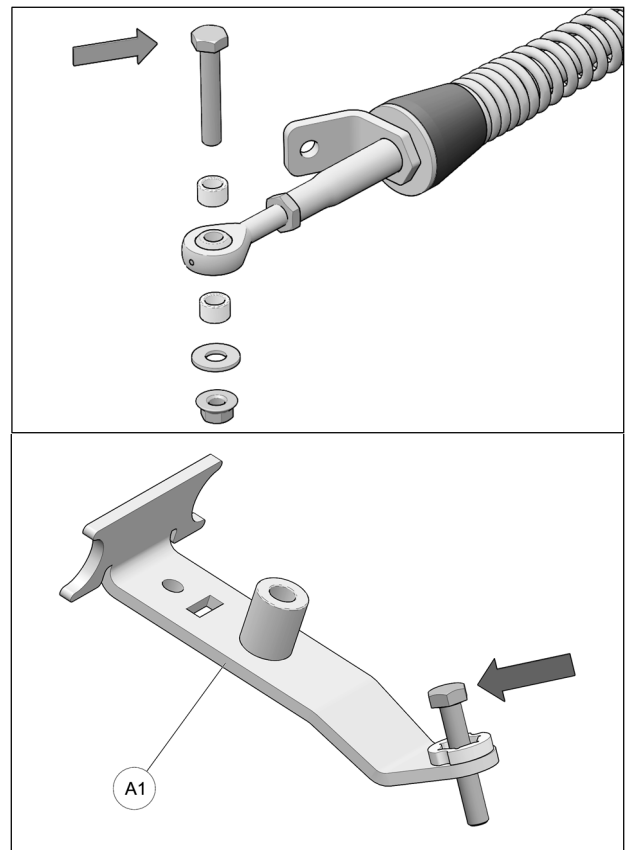

Fig. 12
4. Remove bolt, washer and bushings from front stabilizing rod end and insert bolt in front anchor bracket (A1) as shown in Fig. 12